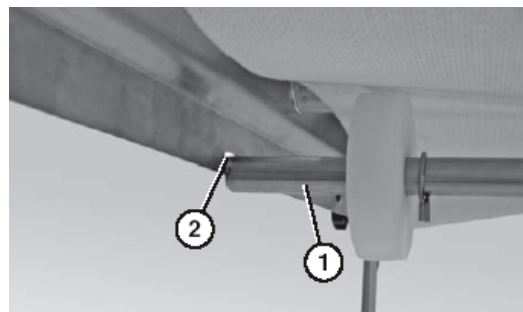

Figure 11
2. Push up on the return shaft (Figure 11, item 1) and slide the notched end of the shaft through the small slot (Figure 11, item 2) on the opposite side of the frame.